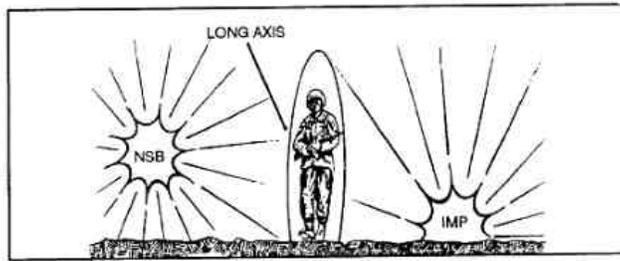

Figure B-6. Standing targets.
- a. Exposed enemy troops that are standing up are best engaged with IMP or NSB fuze settings. The round explodes on, or near, the ground. Shell fragments travel outward perpendicular to the long axis of the standing target (Figure B-6).